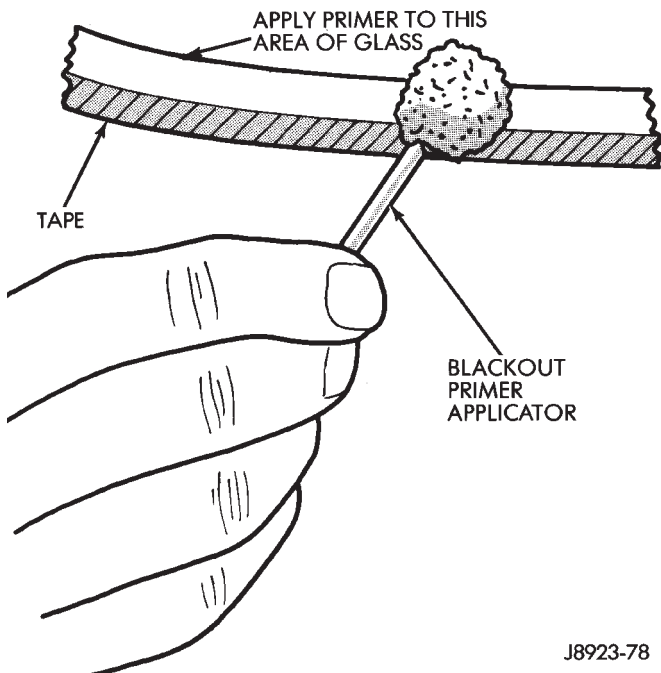

Fig. 15 Blackout Primer Application
- thoroughly mix and apply glass blackout primer to the 16 mm (5/8 in) surface area around the interior side of the glass (Fig. 15); then
- thoroughly mix and apply blackout primer to the 16 mm (5/8 in) surface area around the interior side of the glass (Fig. 15); then